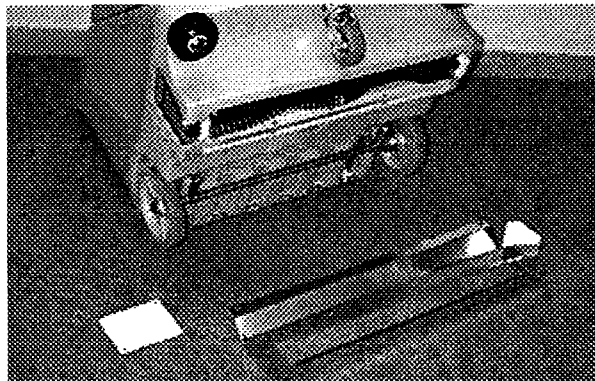

FIG. 12.
6. Remove belt cover and carpet shoe as shown. Use a philips screwdriver and 1/2" (13mm) wrench. (Figure 12)